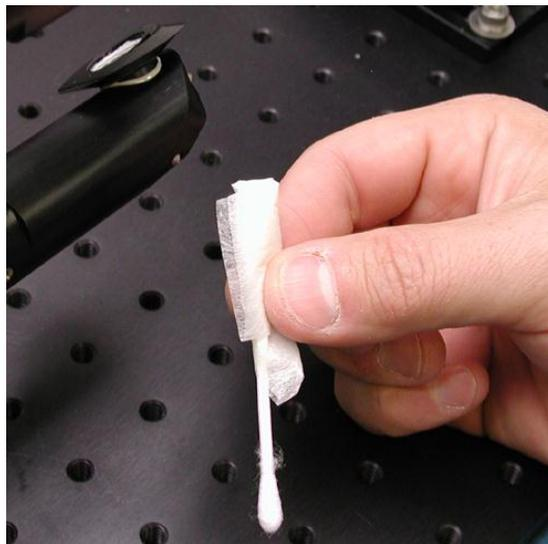

Figure 2
4. Use an optical quality cleaning tissue to clean the window surface. A good way to clean the windows is to fold the tissue over the end of a lab-grade cotton swab (See **Figure 2**).